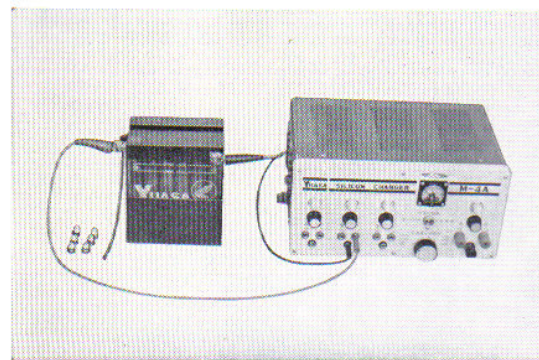

Fig. 5.46 Battery replenish charging
4. Maintain the battery clean-greater the exterior, especially the terminals and pole connectors clean to prevent current leakage which would result in excessive discharging. (Fig. 5.46~5.48)